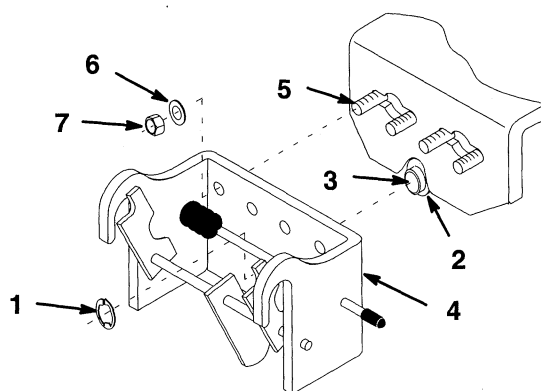

Figure 5
1. Remove E-ring and all except one thick washer from tractor front axle pivot pin. Discard unused washers. (Fig. 5). Remove muffler shield.
2. Install 3/8 x 1 carriage bolts into keyhole slots in axle bracket. Install muffler shield and place front hitch onto the tractor securing with washers, lock nuts and previously removed E-ring (Fig. 5).